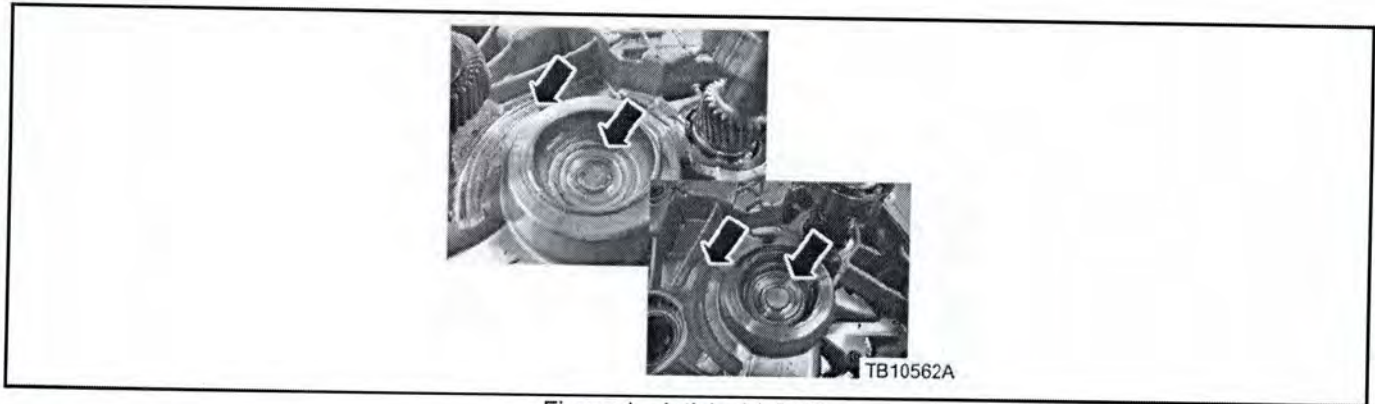

Figure 1 - Article 14-0176
7. Inspect the damper housing for transfer shaft contact or wear. Is contact or wear present on damper housing? (Figure 1)